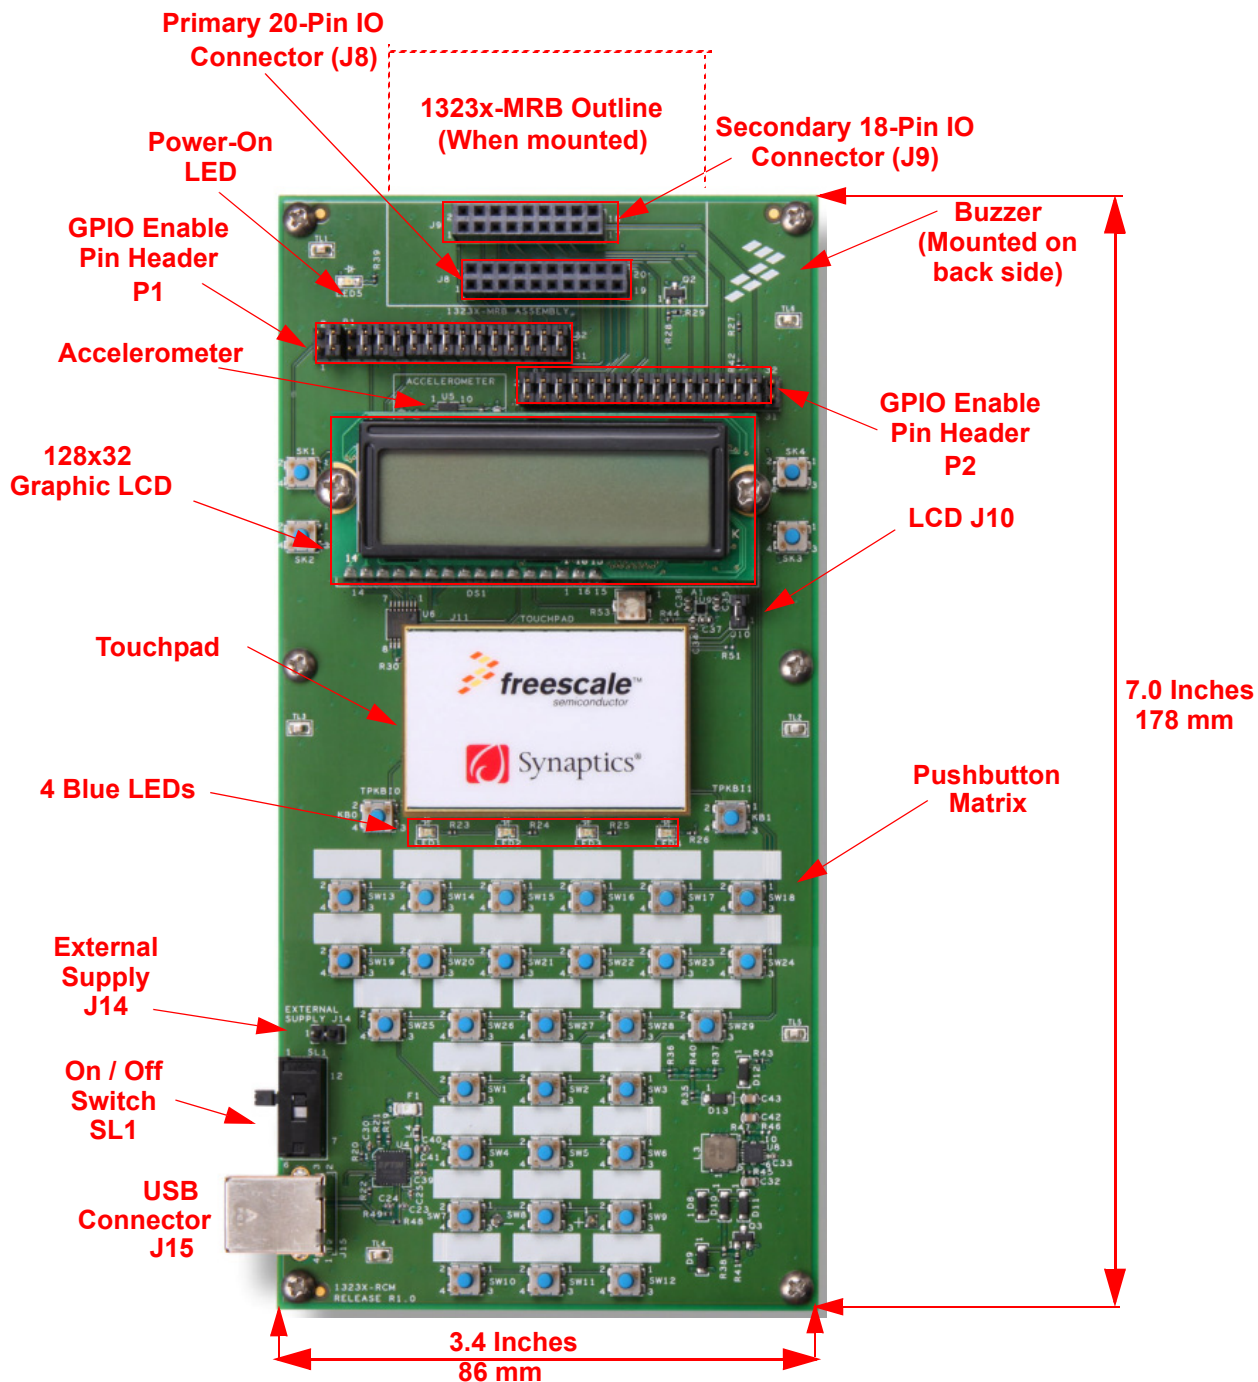

Figure 4-1. 1323x-RCM (1323x-MRB)
Figure 4-1 shows a photo of the 1323x-RCM with the location of connectors and headers designated.
The 1323x-Modular Reference Board (1323x-MRB) mounts on the 1323x-RCM via receptacles J8 and J9. Figure 4-1 shows an outline of the 1323x-MRB placement when mounted.
- Figure 4-1 for location of connectors and features
IO Connectors J8 and J9 (see Figure 4-1) are receptacles that accept the 1323x-MRB pin headers to mount the daughter card. Figure 2-1 shows the 1323x-RCM with the 1323x-MRB mounted. Receptacles J8 and J9 connect to the MC13233 GPIO.